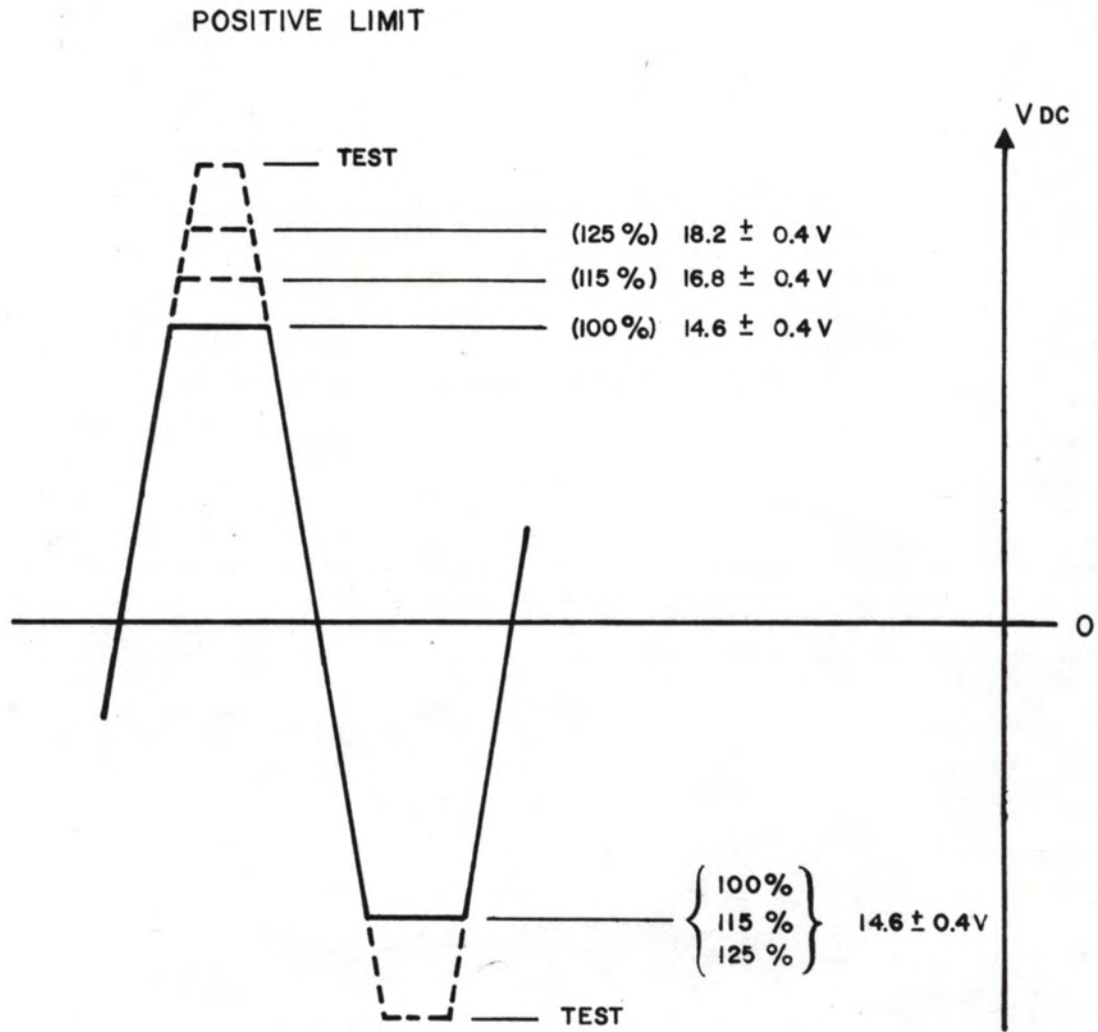

Figure 5-3. Positive Limit Output Levels for the Three Positions of S3
(1) Set controls as listed for table 5-2 (INPUT LEVEL and OUTPUT LEVEL fully cw; OUTPUT MAX dbm at 22).
(2) Apply a 1 kHz signal at 5 mv to the Volumax input. Set potentiometer A1R135 fully ^{cc} ~~clockwise~~. Measure the output and then adjust A1R135 for a 1 dB reduction in the output signal.
(3) If necessary, adjust A1R133 until the GAIN REDUCTION meter reads full scale (to the right).
(4) Increase the input signal as required to cause the meter to read at the NORMAL - HEAVY (red-green) junction. Keep the POSITIVE LIMIT % switch S3 in the 100 (percent) position.
(5) Turn A1R142 fully cw and place the LIMITER switch S2 in the MOD SET position. The output as seen on an oscilloscope set to the dc input should be clipped. Decrease the input level until the output just begins to exhibit clipping. Both the negative and positive sides of the waveform should clip at approximately the same time. Further reduce the input enough to bring the output just to the verge of clipping. Record the output level obtained at the verge of clipping. It should be 10v rms, ± 1.0 dB. ~~9.2~~ P.60
(6) Increase the input level 10 dB. Then measure the positive and negative excursions of the clipped output waveform. The voltages measured should be within the limits indicated in figure 5-3 for the 100 percent positive limit.
(7) Perform the measurement in step (6) for the 115 percent and 125 percent settings of the POSITIVE LIMIT % switch. The measured peak voltages should be within the appropriate limits indicated in figure 5-3.
(8) Place the LIMITER switch in the TEST position and look at the output for all positions of the POSITIVE LIMIT switch. There should be no signs of asymmetrical clipping.